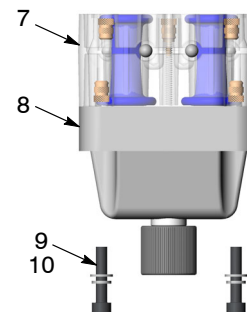

Figure 4 Removing Lower Manifold Body
3. See Figure 4. Remove screws (9) and hardware (10) to remove lower manifold body (8) from pinch valve manifold (7).